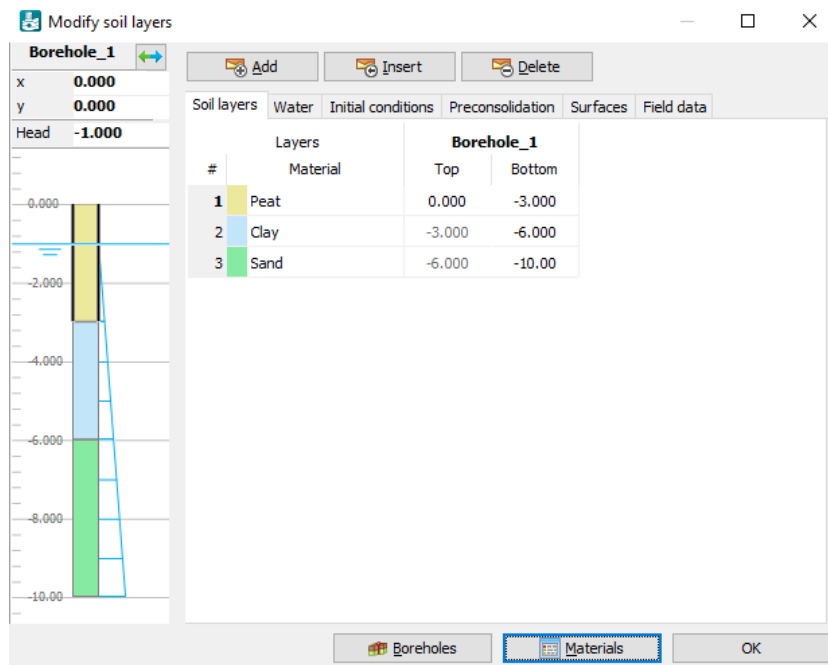

Figure 6-2: Soil layer distribution
- 2 Create soil material data sets according to Table 6-1 \(p. 115\) and assign them to the corresponding layers in the borehole (Figure 6-2 \(p. 115\)).